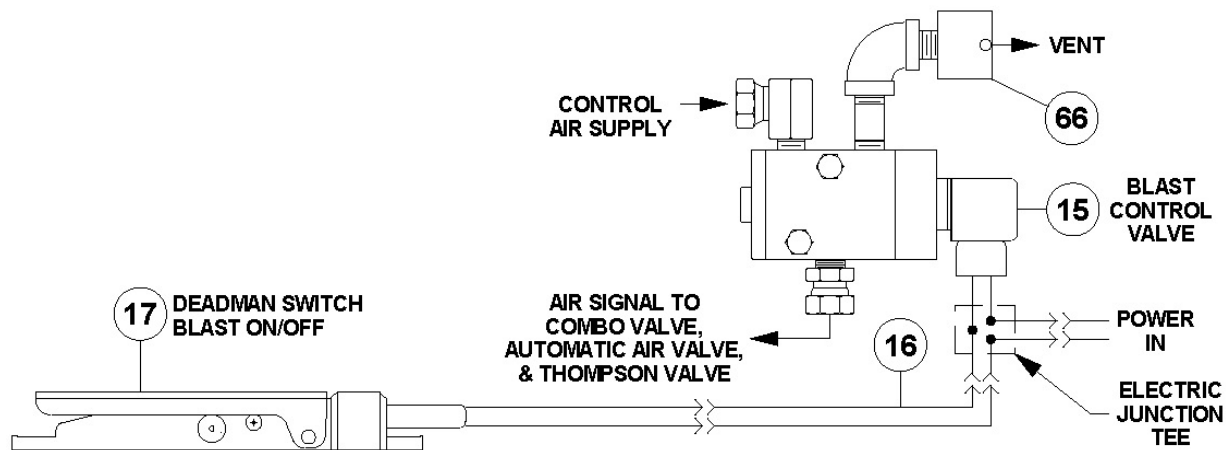

Figure 5.6 – Electric Blast Control System
5.12.2. Electric Deadman System (Optional-If Equipped): When the electric deadman lever is pressed down it closes the electric circuit and supplies electric current to the control valve (#15). The control valve opens and sends air signals to the Combo Valve® (#8), the automatic air valve (#12) and the Thompson Valve II (#14). When the deadman lever is released the electric circuit is cut off closing the control valve. The signal air vents from the breather (#66). See Figure 5.6.